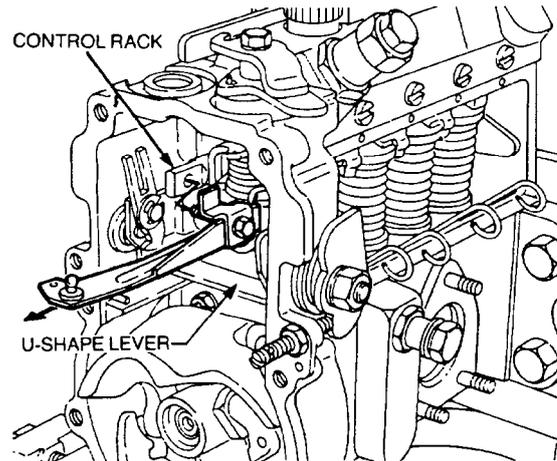

Figure 87 Removing the Connecting Link
- j.** Remove the nut securing the connecting link to the control rack and remove the connecting link complete with the bolt and plate (Figure 87).